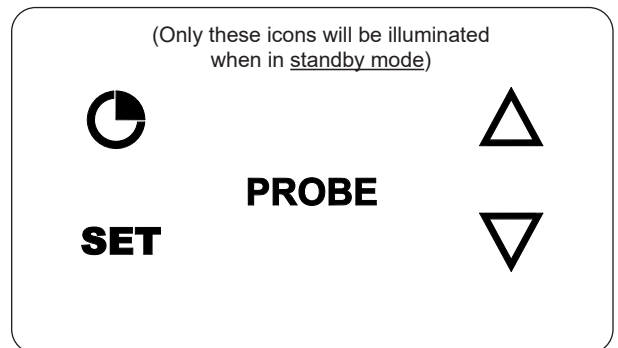

Fig. 29-3 Standby mode
**Press thermometer power switch to turn ON:** The digital controls will illuminate and the thermometer/thermostat will wait in “standby mode” until turned on for use. If the meat probe is plugged in, PROBE will also illuminate. See Fig. 29-3.